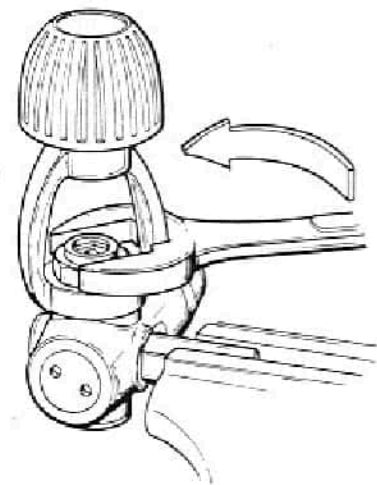

Fig. 1 - Inlet Fitting Removal
7. Apply a 26mm open-end wrench over the inlet fitting(10) (see Fig. 1). Using firm, steady force, turn the inlet fitting counter-clockwise to loosen and remove. Lift the inlet fitting and yoke off the first stage body, and set the yoke aside.